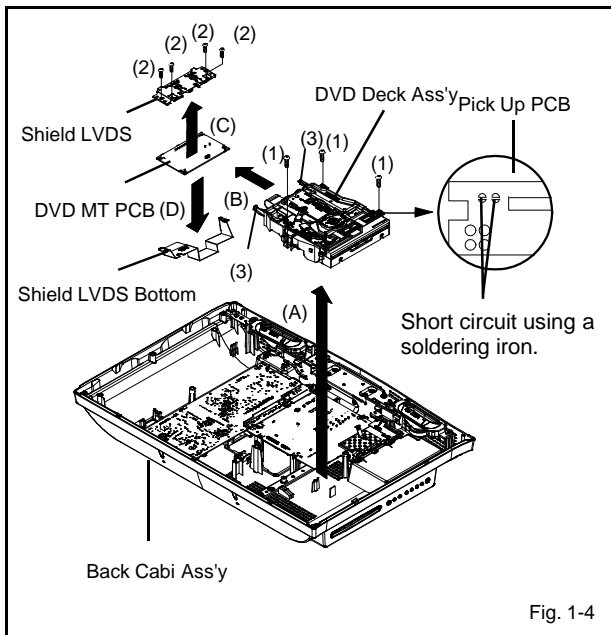

Fig. 1-4
1-4: DVD MT PCB/DVD DECK (Refer to Fig. 1-4)
2. Short circuit the position shown in Fig. 1-4 using a soldering iron. If you remove the DVD Deck with no soldering, the Laser may be damaged.
4. Remove the 3 screws (1).
5. Remove the DVD DECK Ass'y in the direction of arrow (A).
6. Remove the 4 screws (2).
7. Unlock the 2 supports (3).
8. Remove the DVD MT PCB in the direction of arrow (B).
9. Remove the Shield LVDS in the direction of arrow (C).
10. Remove the Shield LVDS Bottom in the direction of arrow (D).